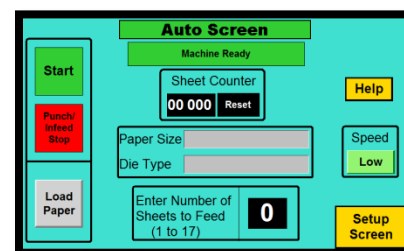

Figure 17
To start the punching process, go to the auto screen and press the "Start" button. The in-feed table will move up until the top of the paper pile is detected. The exit table will also move to its start position. Sometimes the pile may stop some distance from the separator, this is normal. The punch may cycle up to 15 times before taking the first lift of paper, only then will the punching process begin. To stop the punching process, press the "Punch / In-feed Stop" button. The paper in process will finish punching and unload automatically. Only use the "Emergency Stop" switch to stop the machine when an immediate stop is required. Paper joggers will normally reset after the emergency stop is released. If not, please reset joggers located in the "Format Change Screen". (If the machine stops cycling before the first lift of paper is punched, refer to the troubleshooting section of this manual). See figure 17.
- b. **Speed Select & Setup Speed:** Setup speed is used when encountering registration problems or paper jams. Go to the setup screen and press “Setup Speed On”. The machine will run at 75% of low speed. The speed select Button located on the “Auto Screen” will toggle between low running speed, (60 strokes per minute or high speed which is 72). You can stop the punching process by pressing “Setup Speed Off” button or turning the machine off from the auto screen. See figure 17.
- c. **Sheet Counter or Paper amount:** The sheet counter is located on the “Auto Screen” and provides an estimate of your production. If the job contains various thickness materials, as many do, it will not reflect the actual number of sheets but provides a means of measuring production throughout a given shift. You can also monitor how many inches of paper punched instead of sheets. This can be changed in the operator’s “Help Screen”. This number can be reset by pressing the black reset button located to the right of the number. See figure 17.